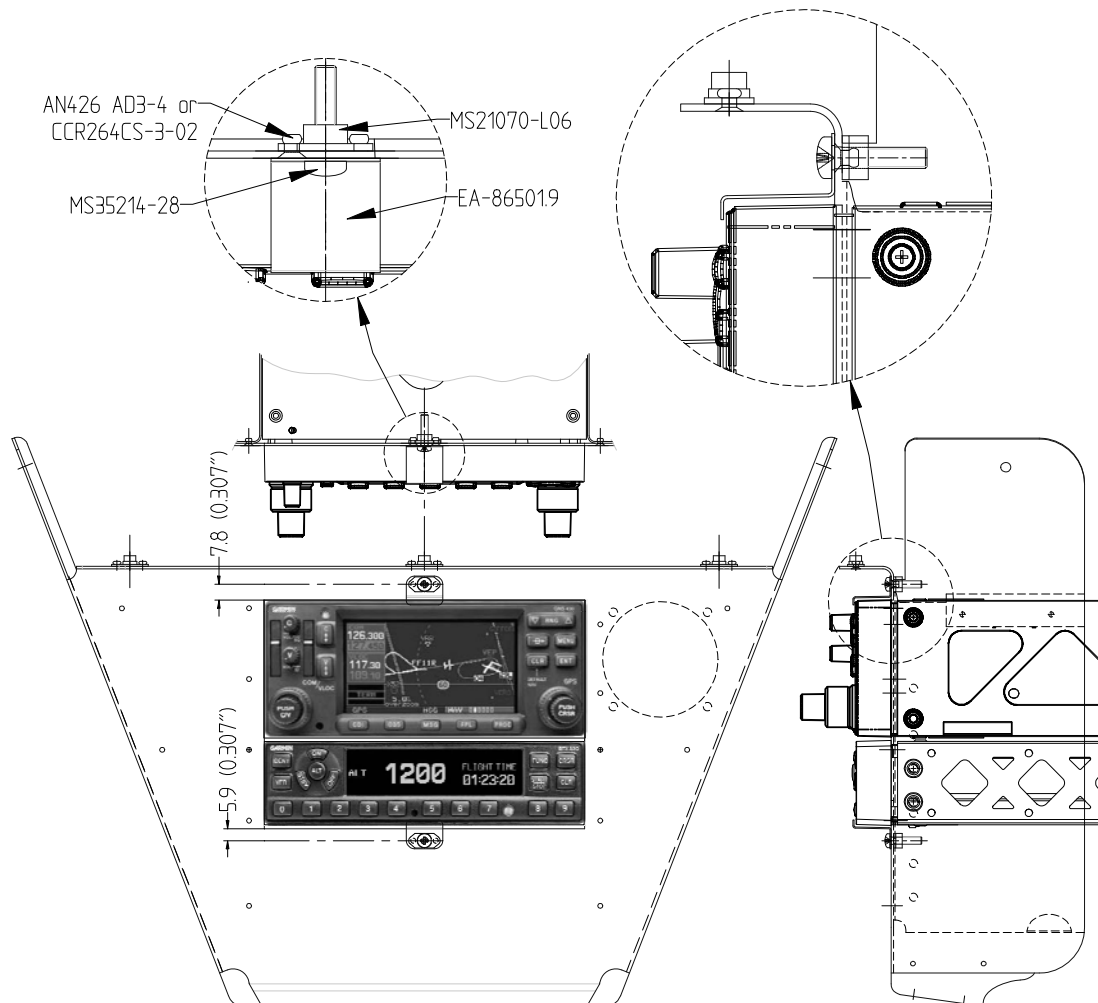

Figure 8: Typical installation of safety clamps (top/bottom)
- For LH and RH positioned safety clamps: Remove the two (2) identified solid aluminum countersunk rivets.
- Drill needed holes for the nutplates used to attach the two (2) safety clamps at the appropriate locations.
- Install the nutplates using solid aluminum countersunk or nut plate flush head rivets (refer to figure 8. and 9.).